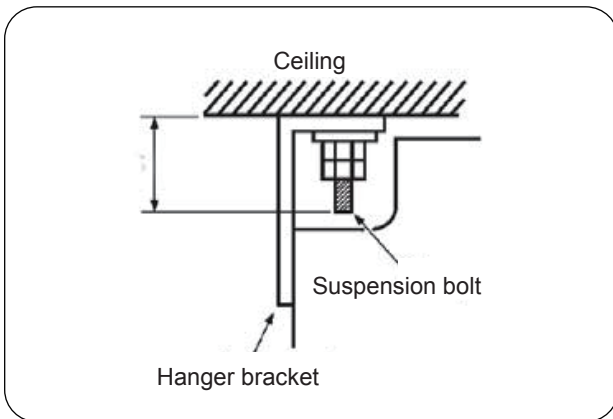

Fig.4
- 3) set the suspension bolt (Use W3/8 or M10 size suspension bolts). Adjust the distance from the unit to the ceiling slab beforehand (Refer to Fig.4).